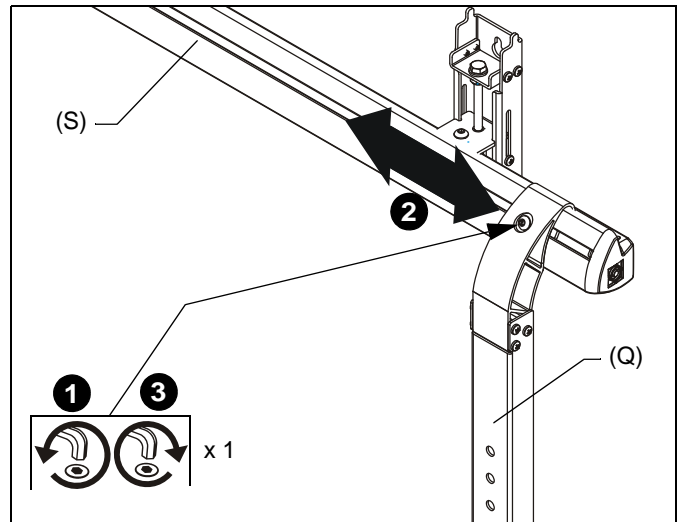

Figure 7
1. Loosen one button head cap screw at top of upright assembly (Q). (See Figure 7)
2. Slide upright assembly left or right on wall assembly (S), as necessary. (See Figure 7)
3. Tighten button head cap screw to fasten upright assembly into place. (See Figure 7)